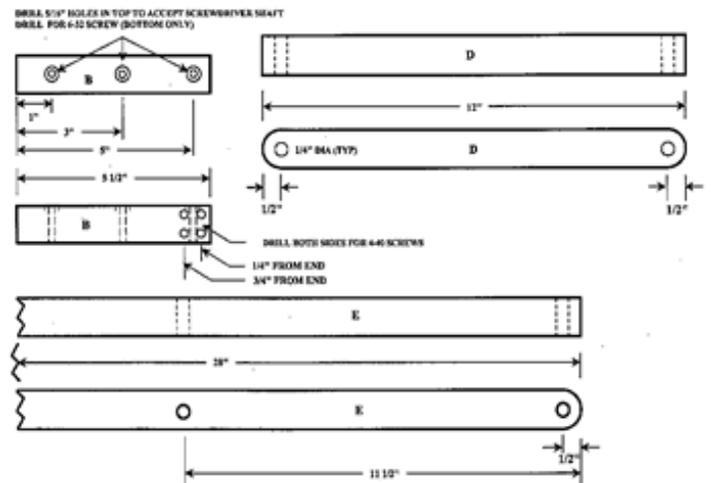

Figure 6 - 1" Aluminum Tubing
1. Cut the 1" aluminum tubing for Parts B, D, and E to the dimensions shown in Figure 6. The length of Part E is shown as 28". This length can be modified to meet your specifications.
2. Mark and center punch the locations for holes to be drilled in Parts B, D, and E. Hole locations are shown in Figure 6.
3. Round over the sides of each end of Part D, as shown in Figure 6. I chose to use a file to round over the ends because it allowed me to take my time to get a nice, round edge. A square will ensure that both ends are rounded over evenly.
4. Round over the sides of one end of Part E, as shown in Figure 6.
5. Drill three holes for the 6-32 x 1/2" screws in the bottom of Part B, as shown in Figure 6. Deburr the three holes.
6. Drill three 5/16" holes (big enough for a screwdriver shaft) in the top of Part B, as shown in Figure 6. Deburr the three holes.
7. Drill four holes for the 4-40 x 1/2" screws in both sides of Part B, as shown in Figure 6. Deburr the eight holes.
8. Drill two 1/4" holes through both ends (both sides) of Part D, as shown in Figure 6. Deburr the four holes.
9. Drill one 1/4" hole through one end (both sides) of Part E, as shown in Figure 6. Deburr the two holes.
10. Drill two 1/4" holes through both sides of Part E, 11 1/2" from the rounded end, as shown in Figure 6. Deburr the two holes.